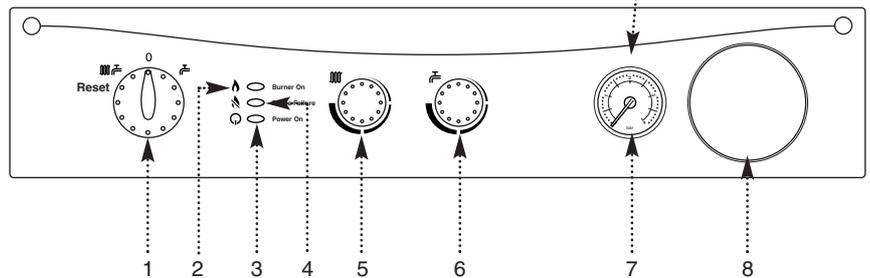

Fig. 2
3. In either position the green "power" neon (Ⓚ) will illuminate (Fig. 2).
7. The orange "burner" neon (Ⓐ) will illuminate when the boiler is operating and the main burner is on (Fig. 2).